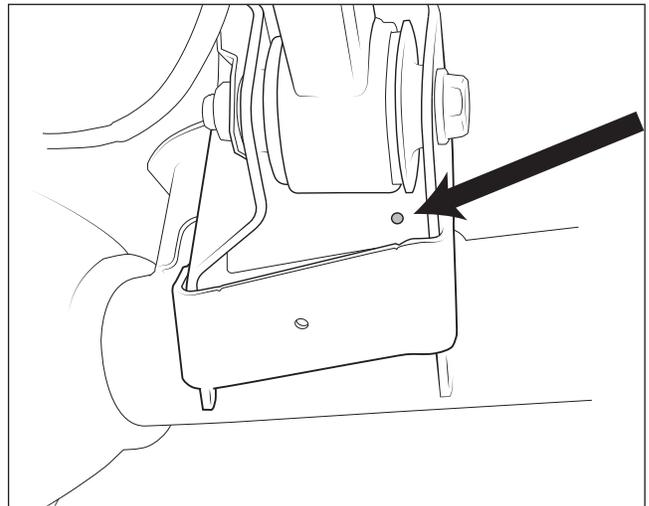

Figure 39
- b. Drill the existing hole in the control arm bracket to 1/2” and treat for corrosion (fig. 39).